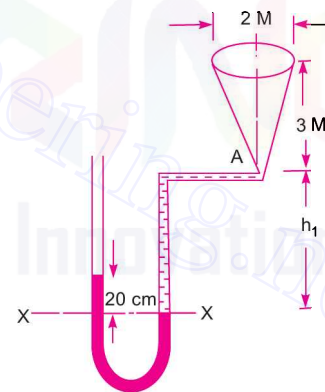

Fig. 2.12
**Problem 2.12** Fig. 2.12 shows a conical vessel having its outlet at A to which a U-tube manometer is connected. The reading of the manometer given in the figure shows when the vessel is empty. Find the reading of the manometer when the vessel is completely filled with water.